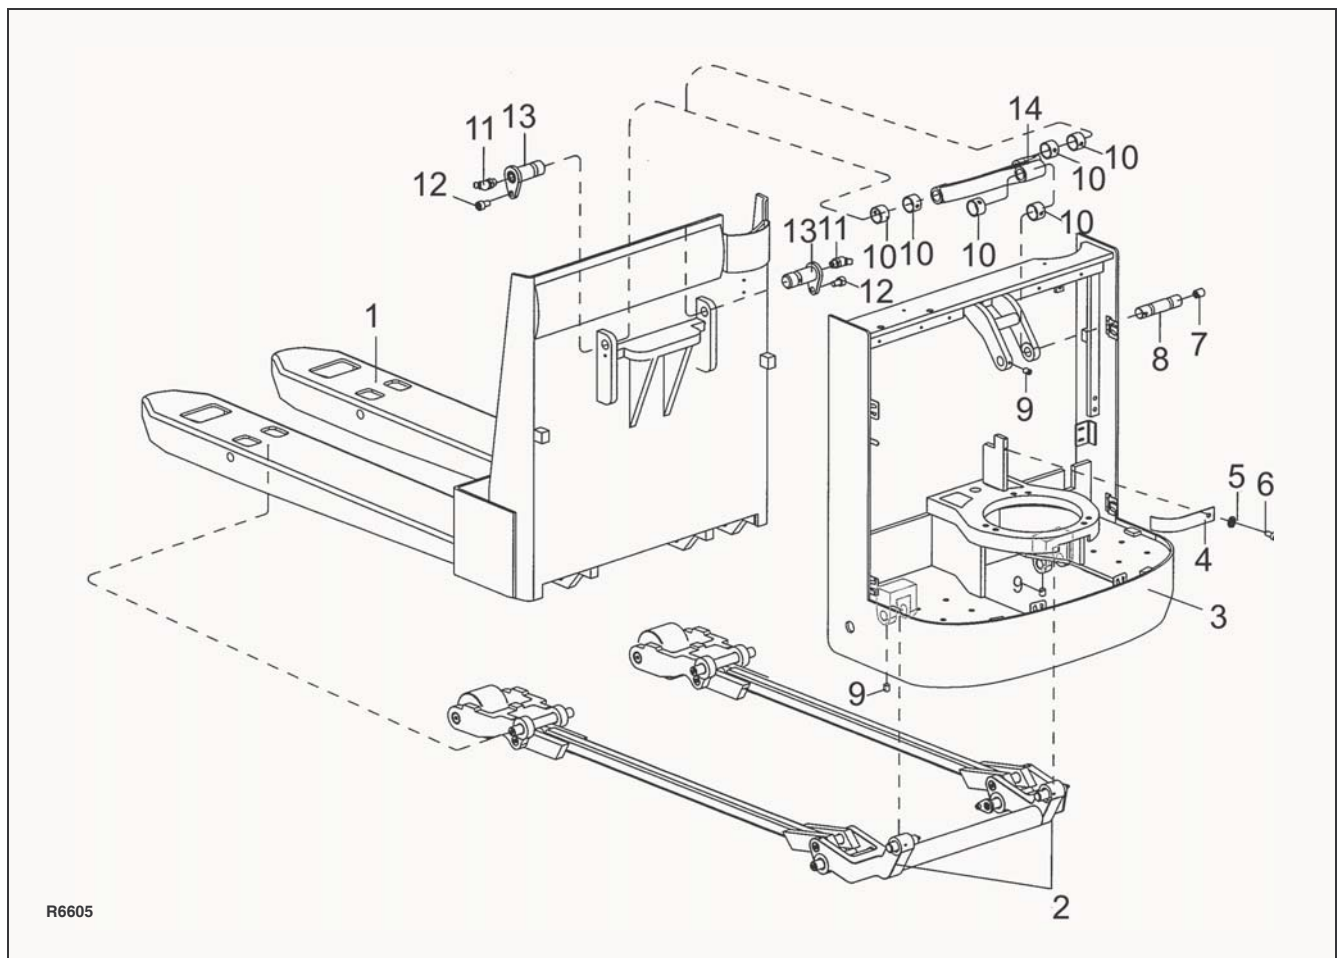

Figure 8-1 Frame
1. Lift complete truck to height sufficient to permit access to lift linkage under forks. Provide blocking under frame (3, Figure 8-1), the rear of fork section (1) and at tips of the forks.
3. Remove screw (9, Figure 8-1) from each side of frame (3). Support tension rod (14, Figure 8-2) and remove pin (2) from each side of link (5). Lower link (5) to the floor.
4. Support both tension rods (14) and remove pins (9).
5. Remove tension rods (14) with attached parts from under the fork.
2. Position bracket (12) in the fork and install pin (9).
3. Raise each tension rod (14) into position and install pin (2) through the frame. Secure Pin (2) with screw (9, Figure 8-1).
1. Support entire truck on blocking, providing separate blocks so that fork section (1, Figure 8-1) can be fully supported when frame (3) is removed.
8. Attach a suitable hoist to frame (3, Figure 8-1).
9. Remove screw (9) and shaft (8) from frame (3).
1. With suitable hoist, carefully move frame (3, Figure 8-1) into position.
2. Move link (14) into position on carrier frame (3) and install shaft (8). Secure shaft with screw (9).